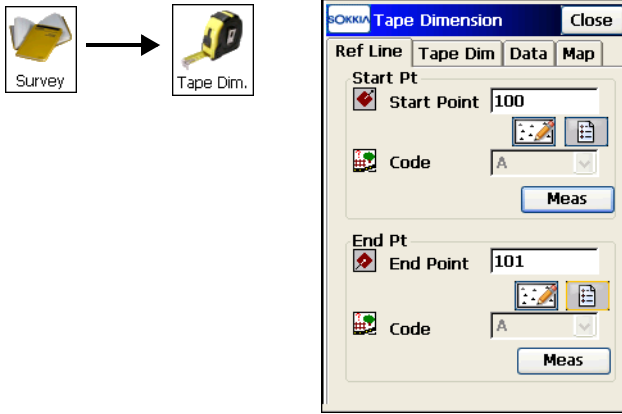

Figure 8-31. Tape Dimension – Ref Line Tab
1. To start working, tap **Survey ▶ Tape Dimension** (Figure 8-31 on page 8-30).
2. On the *Ref Line* tab, enter the information about the two points that comprise the reference line: the names and codes. If the reference line points are to be observed, tap the **Meas** button in the corresponding fields (Figure 8-31 on page 8-30).